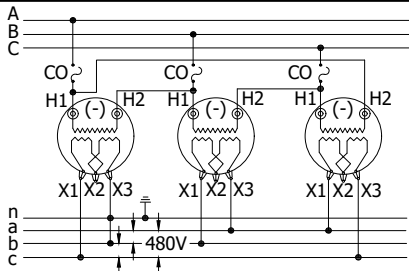

FIGURE 7
- IV NEW CUSTOMER CONNECTED TO NEW STATION: CONNECT AS SHOWN IN FIGURES 7 & 8. THE SERVICE GROUND CONDUCTOR (4TH WIRE) SHALL BE MARKED GREEN OR GREEN WITH ONE OR MORE YELLOW STRIPES IN COLOR AND THE GROUNDED PHASE CONDUCTOR SHALL BE MARKED RED IN COLOR FOR THE CUSTOMER. THE GROUNDED PHASE CONDUCTOR MUST BE CONNECTED "B" PHASE IN THE SERVICE & METERING EQUIPMENT.
- (I) OMIT LIGHTNING ARRESTERS AND TANK GAP GROUNDS ON TYPE WE TRANSFORMER INSTALLATIONS.
- (II) NOT TO BE USED EXCEPT WHERE APPROVED BY DESIGN STANDARDS GROUP FOR EMERGENCY SUBSTITUTION FOR TYPE W'S AND MUST BE CHANGED TO TYPE 'W' WHEN THEY ARE AVAILABLE.
- (IV) NEW CUSTOMER CONNECTED TO NEW STATION: CONNECT AS SHOWN IN FIGURES 7 & 8. THE SERVICE GROUND CONDUCTOR (4TH WIRE) SHALL BE MARKED GREEN OR GREEN WITH ONE OR MORE YELLOW STRIPES IN COLOR AND THE GROUNDED PHASE CONDUCTOR SHALL BE MARKED RED IN COLOR FOR THE CUSTOMER. THE GROUNDED PHASE CONDUCTOR MUST BE CONNECTED "B" PHASE IN THE SERVICE & METERING EQUIPMENT.
- (V) NEW CUSTOMER CONNECTED TO EXISTING UNGROUNDED STATION: RUN FOUR WIRE SERVICE AND IDENTIFY THE FOURTH WIRE FOR THE CUSTOMER AND GROUND IT AT THE STATION POLE, BUT DO NOT INTERCONNECT FOURTH WIRE TO PHASE WIRE AT THE POLE. TIE ONE CORNER OF THE DELTA TO THE GROUND WHEN ALL SERVICES FROM THAT STATION ARE FOUR WIRE.
- (VI) EXISTING CUSTOMER CONNECTED TO EXISTING UNGROUNDED STATION: 3-WIRE SERVICE TO REMAIN UNCHANGED AND UN-GROUNDED.
- (IX) (+) ADDITIVE POLARITY TRANSFORMERS.
- (XI) HIGH LEG MARKING: 4-WIRE DELTA-CONNECTED SERVICE WHERE THE MIDPOINT OF ONE PHASE IS GROUNDED, THE SERVICE-ENTRANCE CONDUCTOR HAVING THE HIGHER PHASE VOLTAGE-TO-GROUND SHALL BE MARKED ORANGE IN COLOR. **THE HIGH LEG CONDUCTOR MUST BE CONNECTED TO THE "C" PHASE WITHIN THE SERVICE AND METERING EQUIPMENT.**